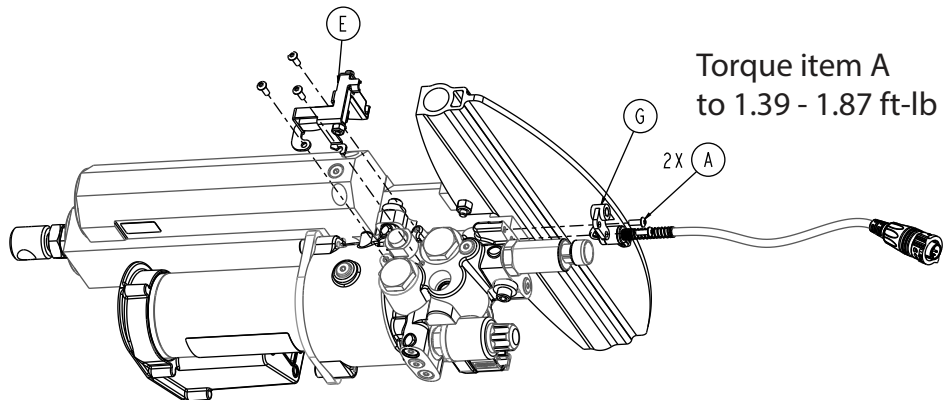

Figure 28 – Actuator lift assembly components
- Using a T10 Torx driver, remove the two button head cap screws (A) that secure the manual release cable bracket (G) to the X-frame cross brace (Figure 28). Save the screws and bracket.
- Remove the manual release cable from the manual release bracket assembly (E) (Figure 28).